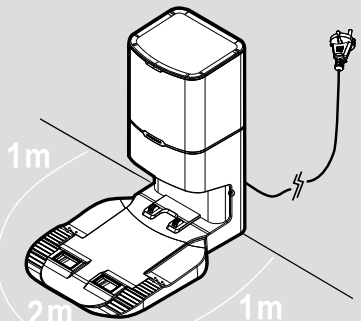

Fig. 2
1. Plug in the dust collection base. **[Fig. 2]**
4. There should not be any object in the area around the Dust collection Base for 2 meters in front and 1 meter on each side. **[Fig. 2]**